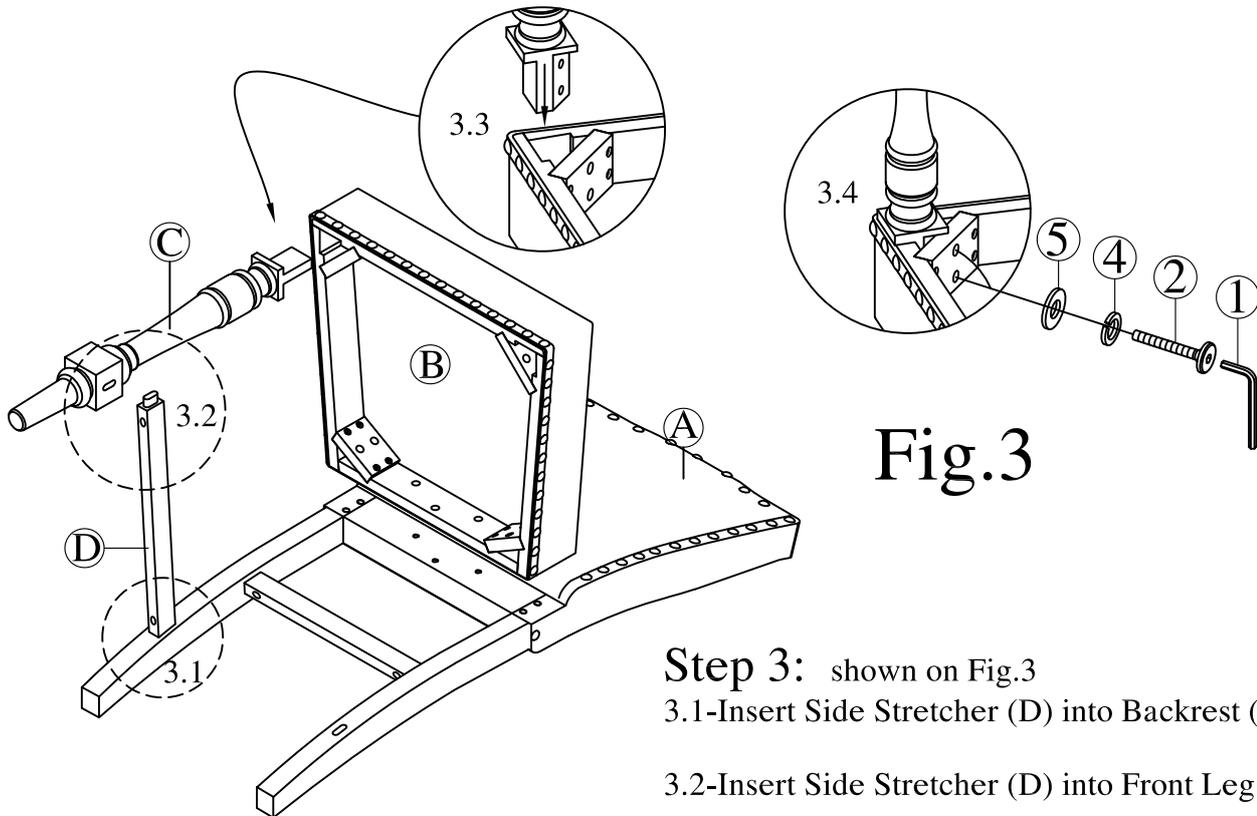

Fig.3
**Step 3:** shown on Fig.3
3.1-Insert Side Stretcher (D) into Backrest (A).